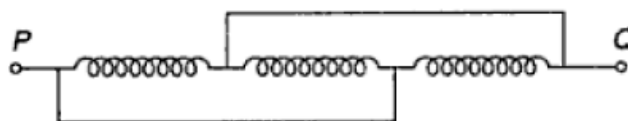

Fig. 3.18 The equivalent inductance of the circuit
3.19 Pure inductors each of inductance 3 H are connected as shown in Fig. 3.18. Find the equivalent inductance of the circuit.